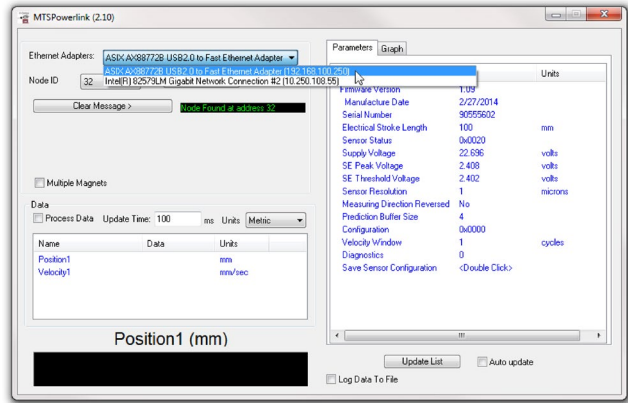

Fig. 51: Choose ethernet adapter
- Start the MTS Powerlink software (download at [www.mtssensors.com](http://www.mtssensors.com)). Choose the correct ethernet adapter from the drop-down menu (Fig. 51).